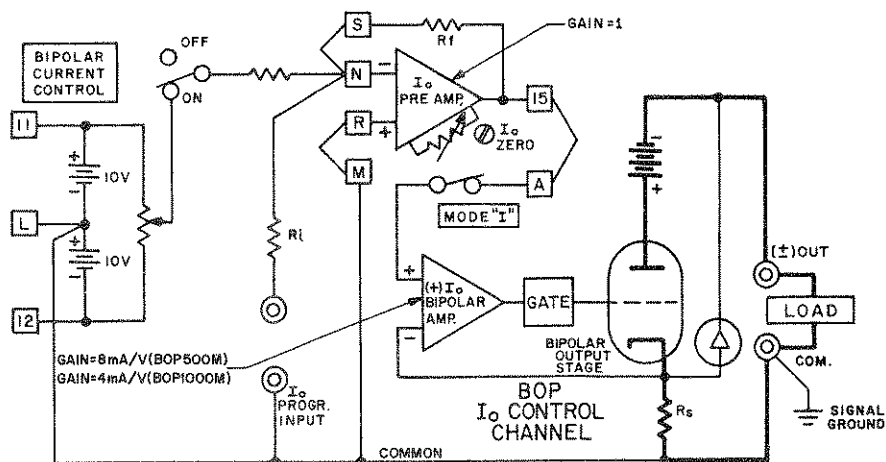

FIG. 3-12 LOCAL (FRONT PANEL) CONTROL OF THE BOP OUTPUT CURRENT WITH THE BIPOLAR CURRENT CONTROL.
- 3-29 GENERAL: In the local (front panel) control mode, the BOP output current can be controlled by means of the BIPOLAR CURRENT CONTROL, with the BIPOLAR CURRENT CONTROL SWITCH closed, and the MODE SWITCH in the "CURRENT" position, over the full output range. The control potential zero to (\pm) 10V is applied to the I_o PRE-AMP, operating with unity gain, to the I_o BIPOLAR AMP which drives the BIPOLAR OUTPUT STAGE with a fixed gain of 8 mA per volt (BOP-500M) and 4 mA per volt (BOP-1000M) respectively. A d-c control signal from zero to (\pm) 10 volts will, therefore, control the BOP output current through its specified range (refer to FIG. 3-12).